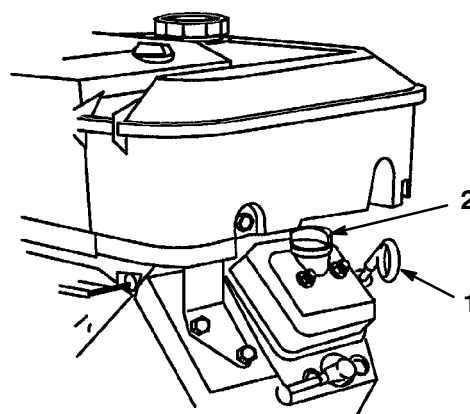

Figure 10
2. Remove dipstick and wipe it with a clean rag (Fig. 10). Insert dipstick into tube and make sure it is seated fully. Remove dipstick and check level of oil.
3. If oil level is low, remove filler cap from valve cover (Fig. 10) and pour oil into opening until the oil level is up to the "FULL" mark on the dipstick; refer to Engine Oil, page 29, for proper oil type and viscosity. Add the oil slowly and check the level often during this process. **Do not overfill.**